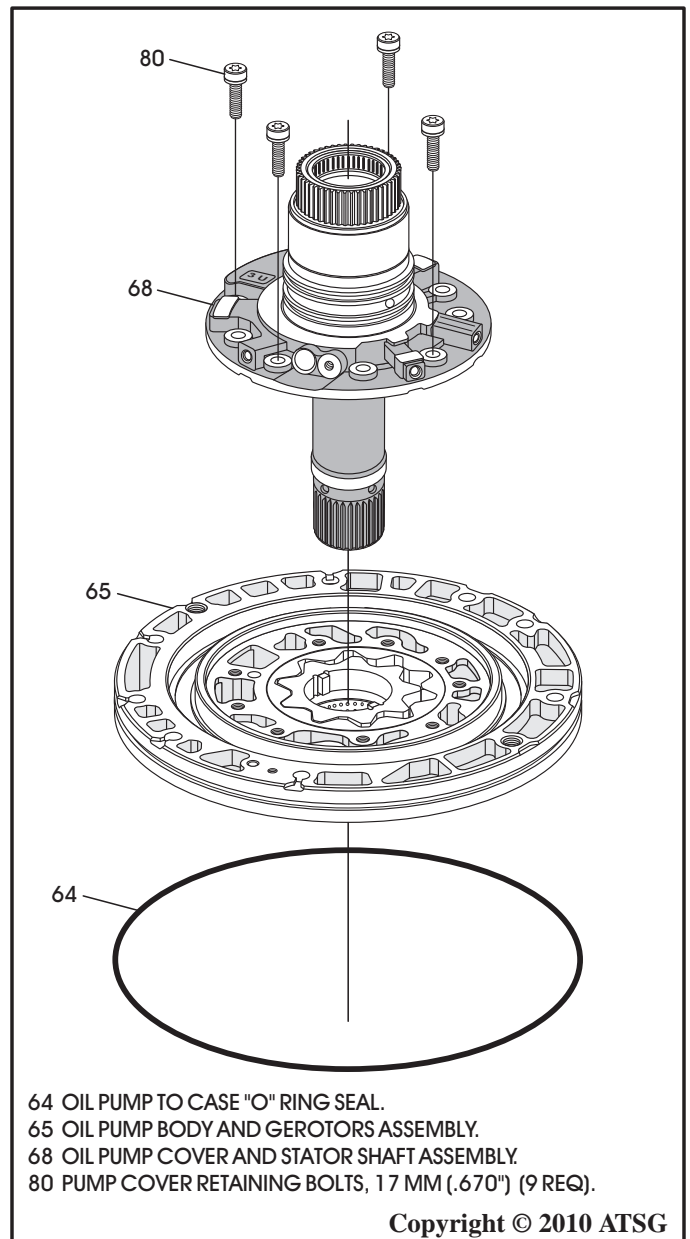

Figure 160
- Install the pump cover into the pump body, as shown in Figure 160, using only four bolts in the locations shown and hand tighten only.
- Install new oil pump body to case "O" ring seal, as shown in Figure 160.